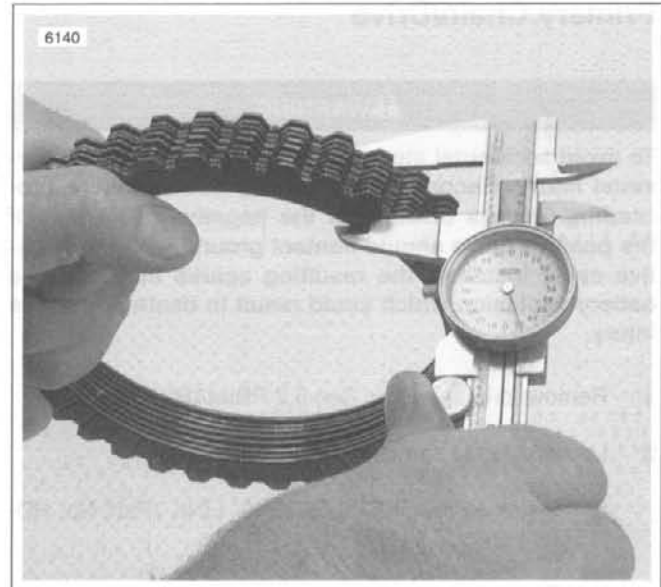

Figure 6-19. Measuring Friction Plates
- b. Inspect each steel (drive) plate (19) for grooves.
2. Check the diaphragm spring (11) for cracks or bent tabs. Install a **new** spring if either condition exists.
3. See Figure 6-19. Check fiber plates for thickness.